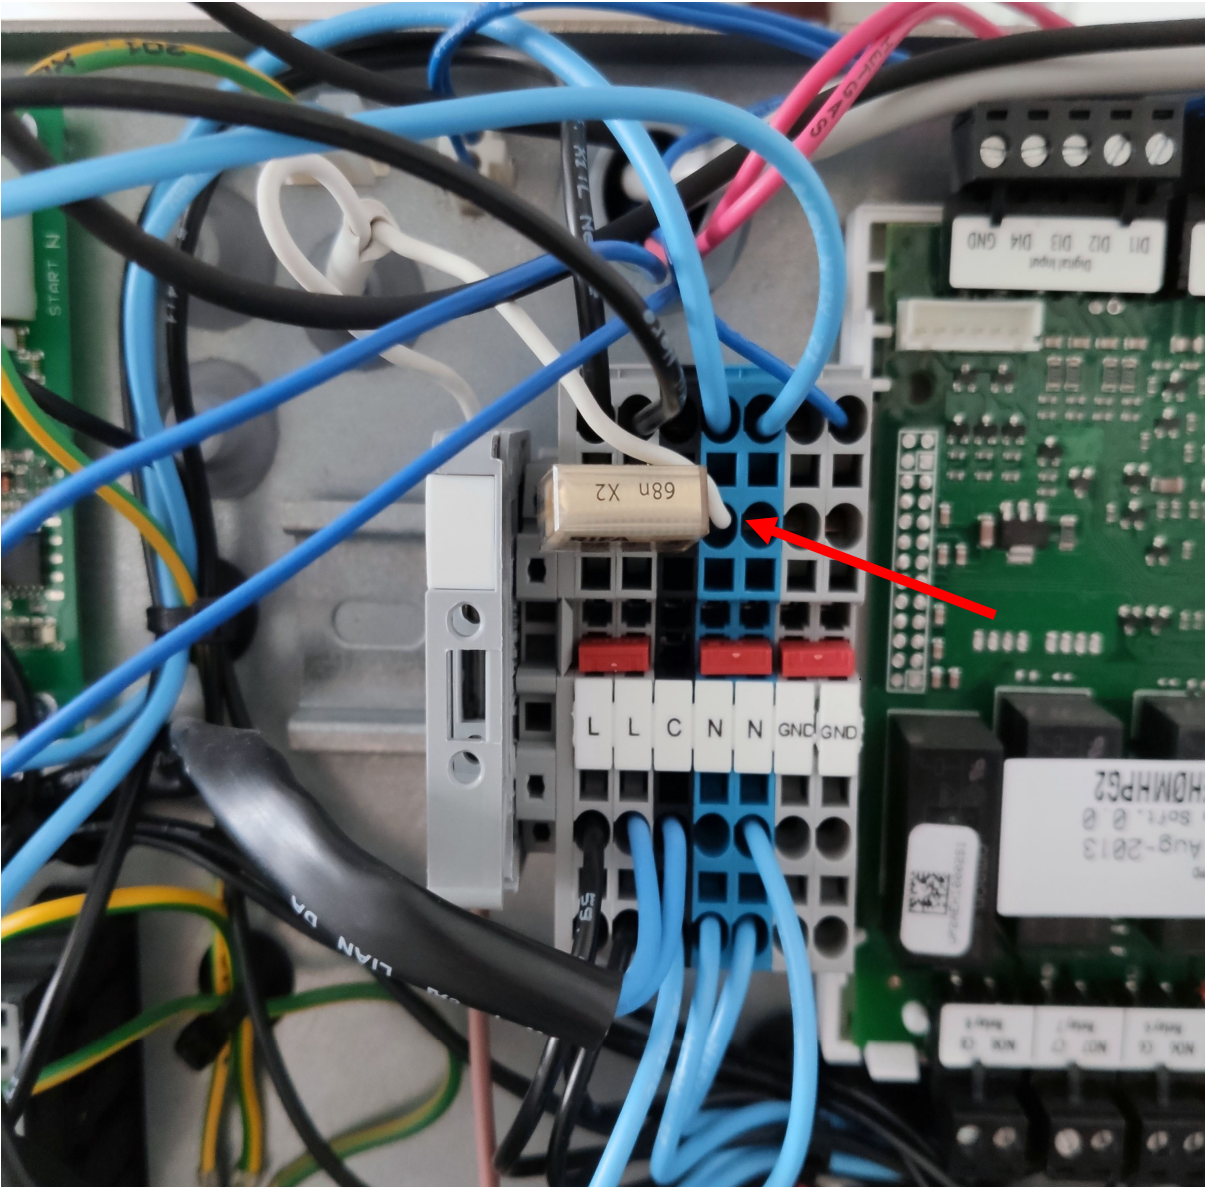

Fig. 1a – Heating cable wiring to the terminal board – CTC 400 series heat pump
4. Wire one lead of the heating cable to the fuse holder and the other one to the N terminal, see Fig. 1a and 1b.